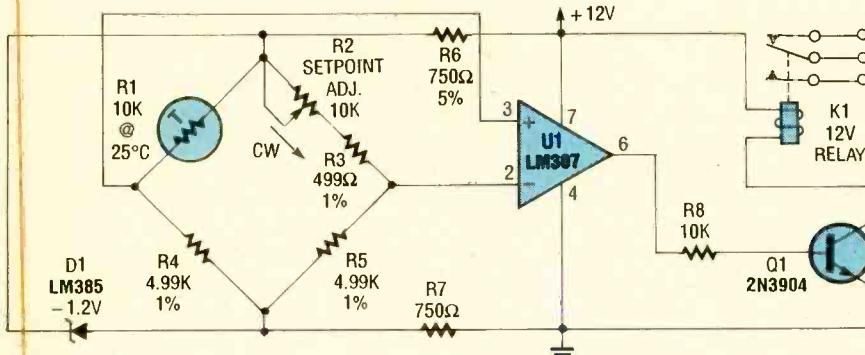

Fig. 4. By using a bridge circuit in between, a thermistor can provide input to a comparator to yield on-off operation of a device.
**Temperature Control.** Adding an op-amp and a relay to the thermistor bridge creates a low-cost on-off temperature controller (see Fig. 4). The relay will switch when the thermistor's resistance equals R2 plus R3 (i.e. RC) which occurs at the bridge's null point. Since
and compensation. By passing enough current through thermistors to heat them we can create a whole new series of applications. For instance, by using a lower-resistance thermistor and a higher bridge voltage in the circuit of Fig. 4, we can create a liquid-level sensor. Recall that earlier we mentioned that a small thermistor's dissipation constant is about  $1 \text{ mW}/^{\circ}\text{C}$  in still air,  $8 \text{ mW}/^{\circ}\text{C}$  in liquid. By dissipating, say, 50 mW, the thermistor's temperature will rise  $50^{\circ}\text{C}$  in air but only  $6^{\circ}\text{C}$  in liquid. If the thermistor is suspended at the desired level, its temperature will drop when it is touched by the liquid. By setting the potentiometer in Fig. 4 midway between the temperature extremes the relay can be used to open or close a valve as needed to control the level.